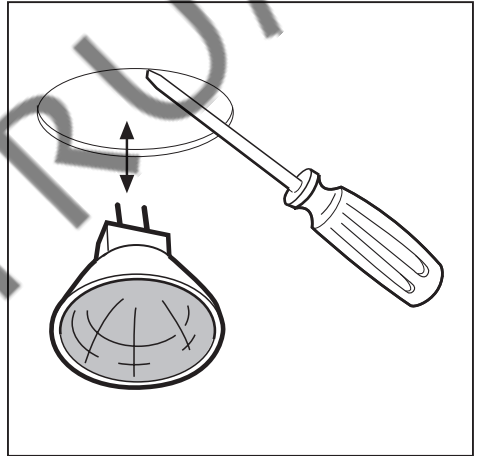

Fig.19
• Replacing halogen light bulbs (Fig.19):